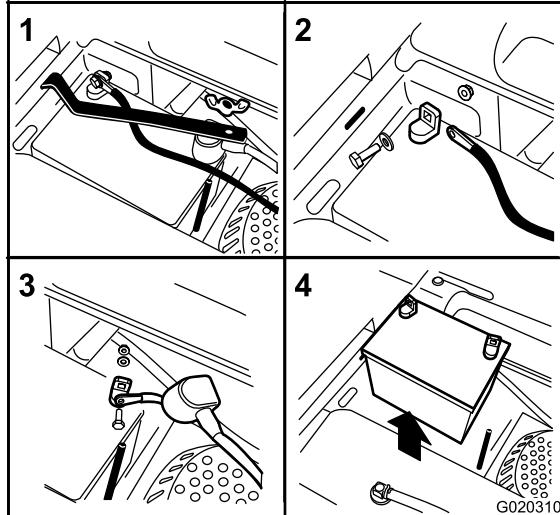

Figure 41
- Remove the wing nut securing the battery clamp (Figure 41).
- Remove the clamp (Figure 41).
- First disconnect the negative battery cable (black) from the negative (-)(black) battery terminal (Figure 41).
- Slide the red terminal boot off the positive (red) battery terminal and remove the positive (+)(red) battery cable (Figure 41).
- Position the battery in the tray with the terminal posts opposite from the fuel tank (Figure 41).
- Secure the cables with 2 bolts, 2 washers, and 2 locknuts (Figure 41).
- Install the clamp and secure it with the wing nut (Figure 41).